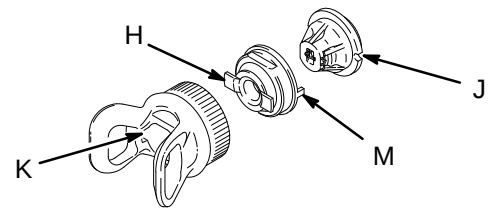
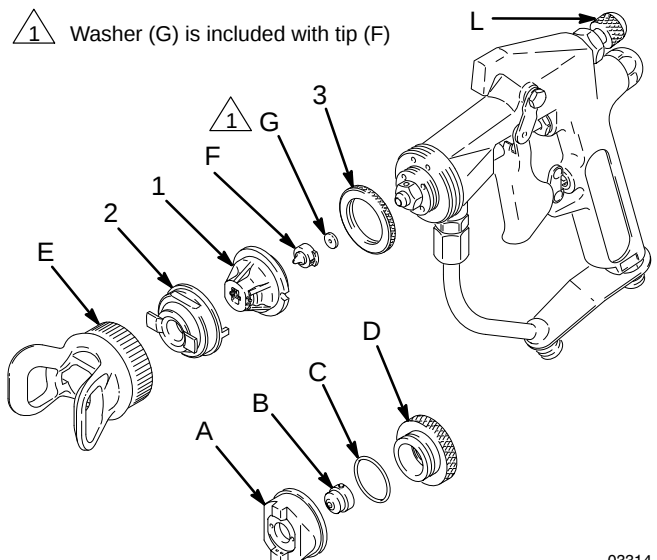

Fig. 1
Fig. 2
2. Remove tip guard/retaining ring (E), air cap (A), tip assembly (B), o-ring (C), and air separator (D). See Fig. 2.
NOTE: When the seal ring (3) is installed, the pattern adjustment knob (L) can be used to control the amount of air going to the air cap for precise atomization adjustment. See Fig. 2. The pattern adjustment knob will not control the pattern width when the new air cap (1) is installed. If air control at the gun is **not** desired, do not install the seal ring, instead go on to step 4.
3. Apply a low strength (purple) Loctite® to the seal ring (3) threads. Install the seal ring onto the front of the gun, turning the ring all the way down against the gun body. Wipe off any excess Loctite.
4. Install the spray tip (F – *ordered separately*) into the air cap (1).
5. Install the air cap cover (2) onto the air cap. The legs (M) on the cover must engage with the notches (J) in the air cap. See Fig. 1.
6. Install the air cap cover, air cap, and tip assembly (1, 2, F, G) into the tip guard/retaining ring (E). The horns (H) on the air cap cover must engage with the notches (K) in the tip guard. See Fig. 1.
7. Tighten the tip guard/retaining ring (E) onto the gun.